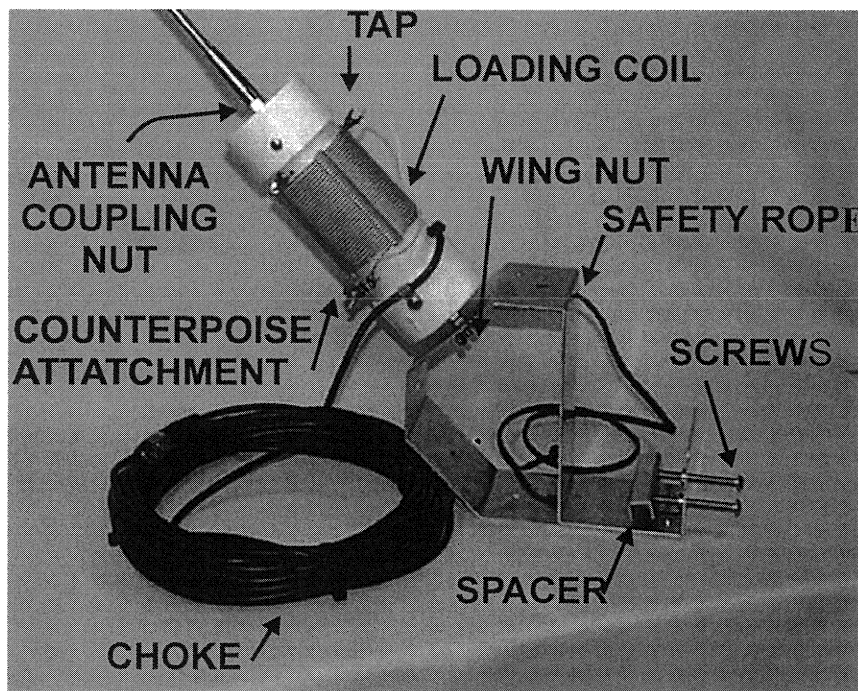

Figure 1
- [] 3. Screw the antenna into the coupling nut (shown in Figure 1) located on top of the coil assembly.
- [] 8. Use the three black wire ties supplied to tie the choke coils together. Space the ties out evenly around the circle. Figure 1 shows a picture of the finished choke.
- [] 9. Insert the 1/4" x 3 1/4" bolts into the threaded holes on the base plate approximately one inch as shown in Figure 1.
- [] 10. Place the spacer plate onto the bolts as indicated in Figure 1.
- [] 11. Push one end of the safety rope through the rope hole as indicated in Figure 1. Tie a knot on both ends of the rope to secure it.
5. Decide which mount hole will be used on the mounting bracket according to your situation. There are five holes available. Figure 1 indicates the possible hole positions.